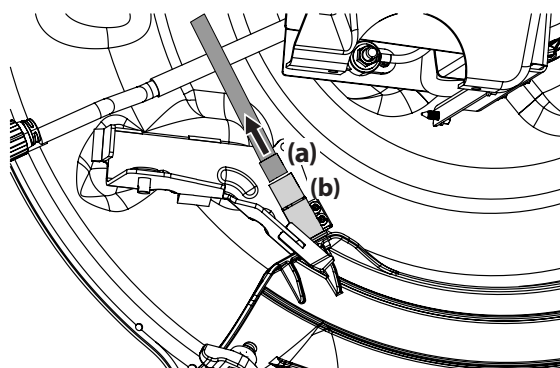

Figure 21
6. Unplug the wire connector (a) from the safety switch (b) at the rear of the chute opening. See Figure 21.
3. Plug the wire connector (a) into the safety switch (b) at the rear of the chute opening. See Figure 21.
NOTE: Be sure to securely reconnect the wire connector to the safety switch in Figure 21, your riding mower will not start or operate without the safety switch properly connected.